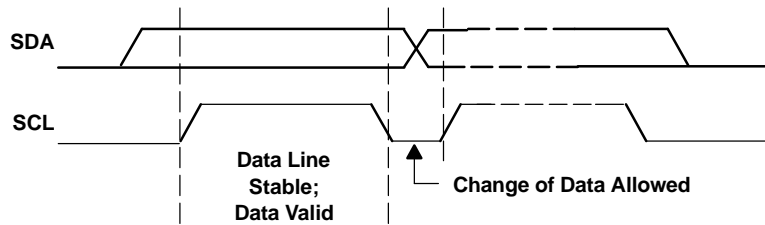
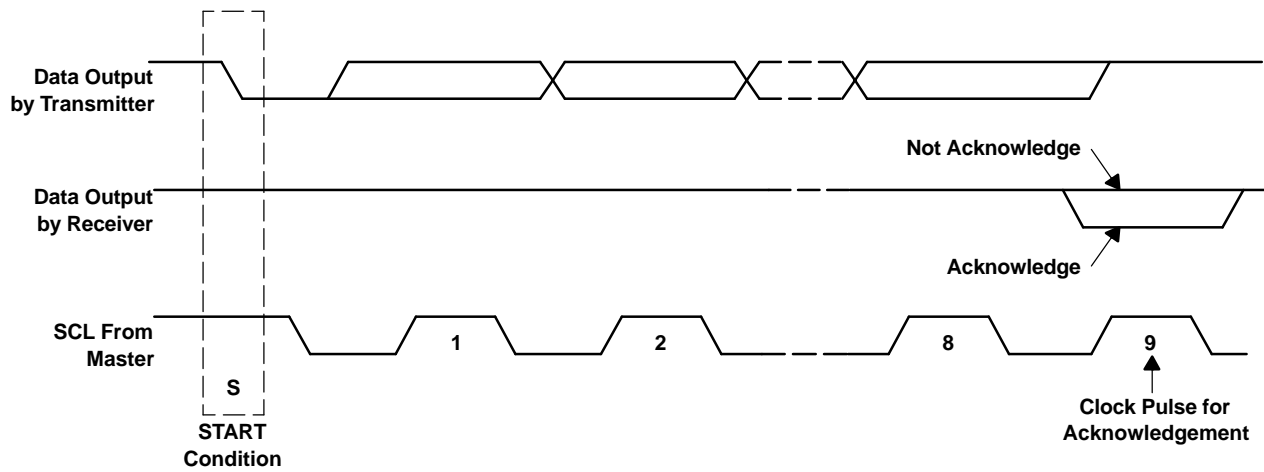

Figure 42. Bit Transfer on the I2C Bus
Figure 43. Acknowledge on the I2C Bus
- The master then generates the SCL pulses and transmits the 7-bit address and the *read/write direction bit* R/W on the SDA line. During all transmissions, the master ensures that data is *valid*. A *valid data condition* requires the SDA line to be stable during the entire high period of the clock pulse (see Figure 42). All devices recognize the address sent by the master and compare it to their internal fixed addresses. Only the slave device with a matching address generates an *acknowledge* (see Figure 43) by pulling the SDA line low during the entire high period of the ninth SCL cycle. On detecting this acknowledge, the master knows that a communication link with a slave has been established.